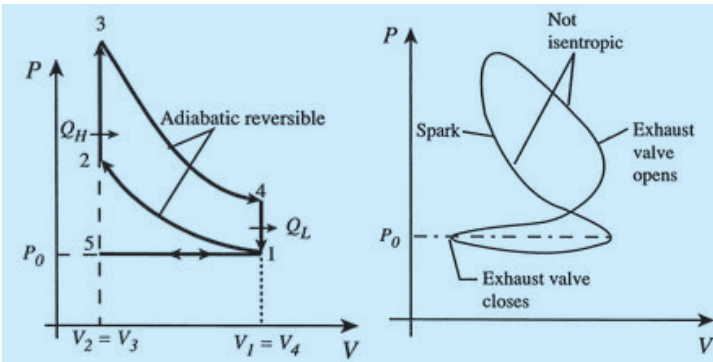
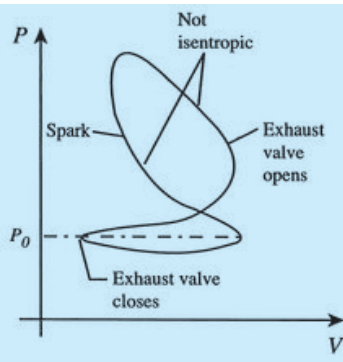

FIG. 1 - IDEAL OTTO CYCLE [1]
FIG. 2 - REAL OTTO CYCLE [2]
heat rejection (Fig. 1). The Otto cycle's four stages for an actual (non-ideal) device are intake, compression, combustion, exhaust. (Fig. 2 and 3)
- (1) Fig. 1 - http://web.mit.edu/16.unified/www/SPRING/propulsion/notes/fig5OttoIdeal_web.jpg
- (2) Fig. 2 - http://web.mit.edu/16.unified/www/SPRING/propulsion/notes/fig5OttoReal_web.jpg